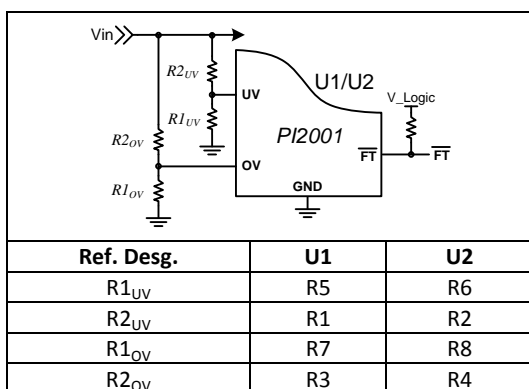

Figure 4: UV & OV two resistor divider configuration
2.1. UV and OV programmable resistors are configured for a 3.3V Vin (BUS voltage) application in a two-resistor voltage divider configuration as shown in Figure 4. UV is set to 2.6V and OV is set for 3.8V, R1_{OV} and R1_{UV} are 2.00KΩ 1%. If the PI5101-EVAL1 is required to be used with a different Vin voltage application please follow the following steps to change the resistor values.